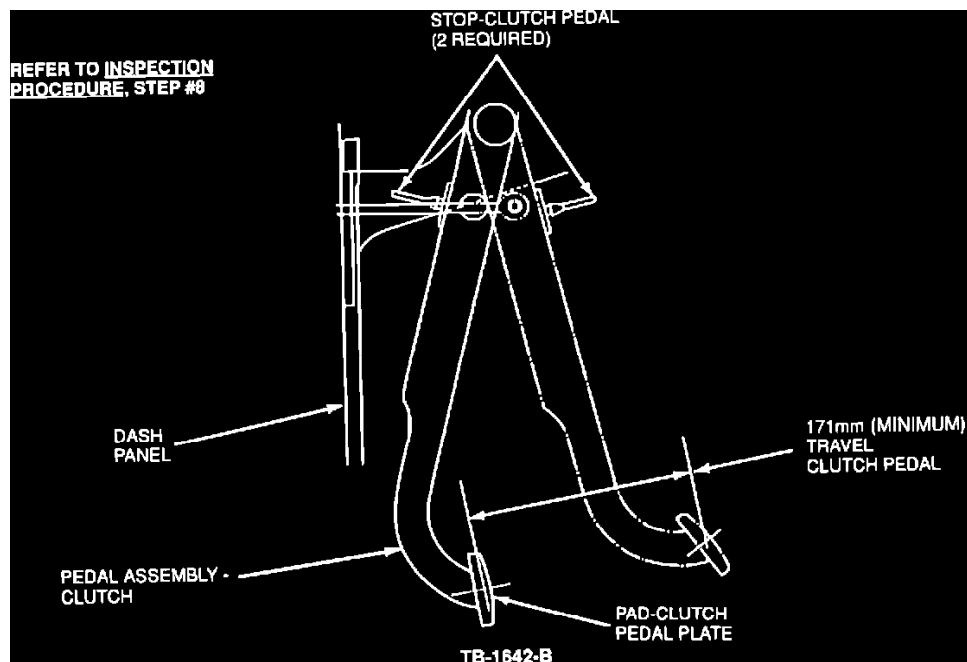

Figure 2
- ^ Pedal travel at the center of the pedal pad should be 6.75" (171 mm minimum) or more, Figure 2.